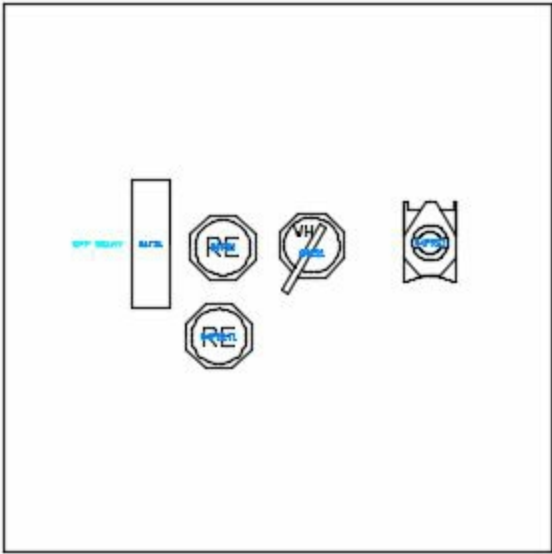

Figure-32. Panel after adding components
- Similarly, place all the desired components in the panel enclosure. After adding all the components, the panel is displayed as shown in Figure-32.